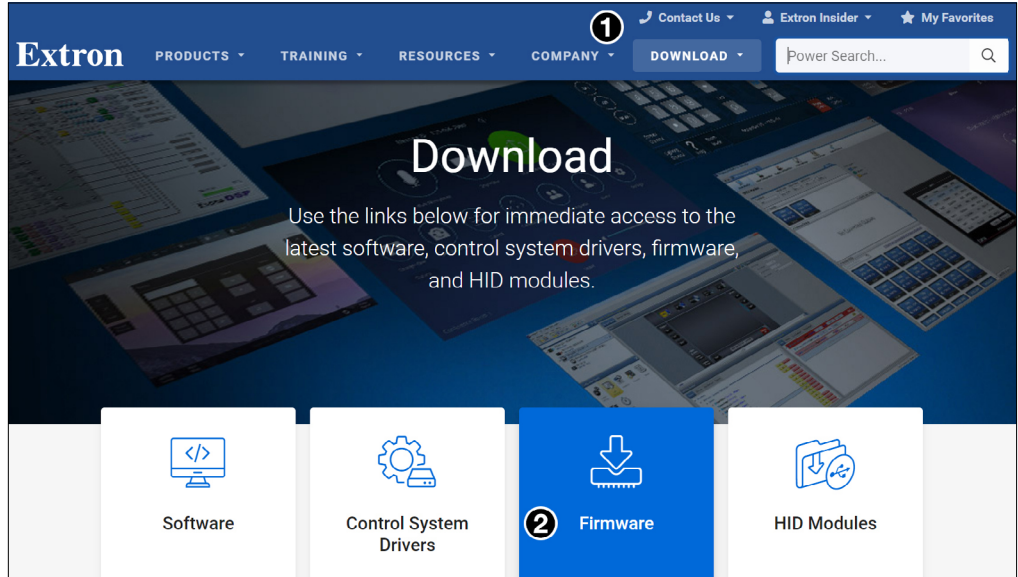

Figure 21. Firmware Download Center
1. Open the Extron website and select the **Download** tab (see figure 21, ❶).
2. Click the **Firmware** (❷) option at the bottom of the page.